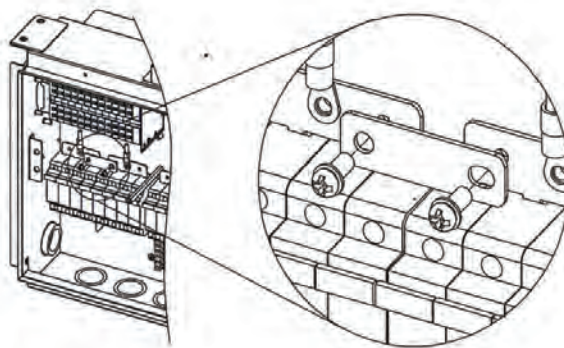

Figure A-3
2. Use No.2 Phillips head screwdriver to remove the jumper busbar, torque value of 1.6N.m. (see Figure A-3)